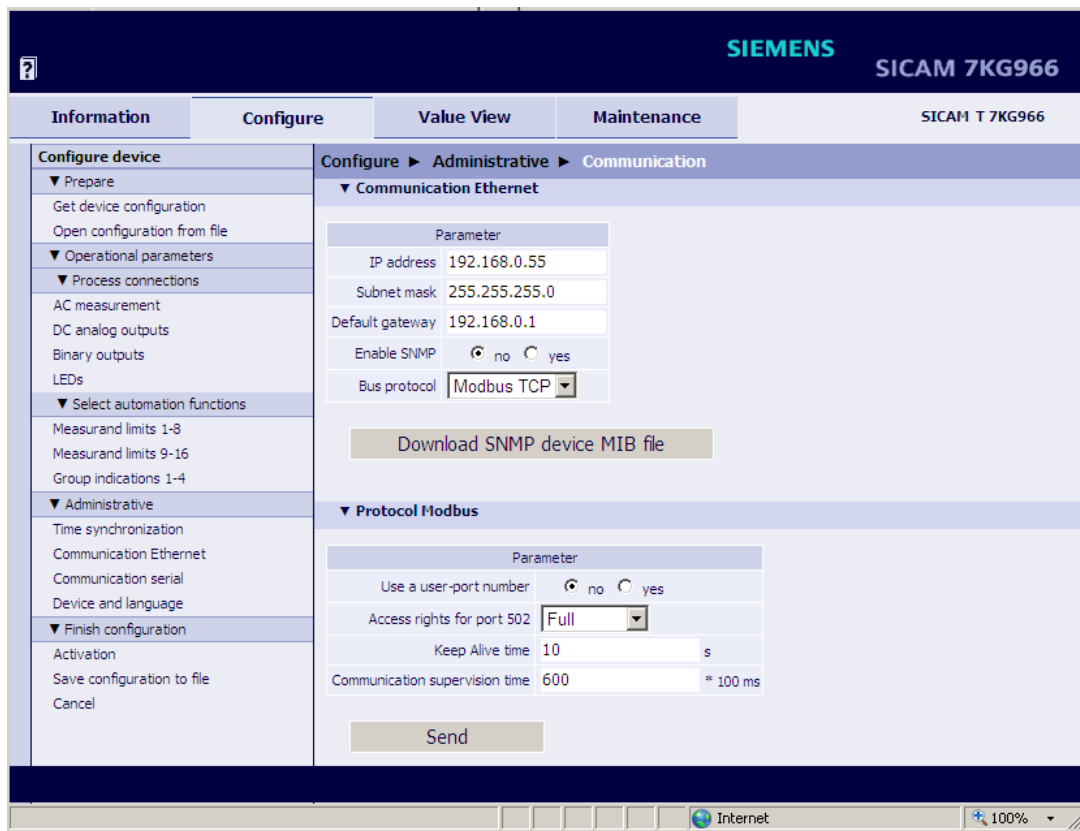

Fig. 7-39 Configure Tab, Communication Ethernet via Modbus TCP Input/output Window
- ✧ In the **Communication Ethernet** input/output window, click the **Download SNMP device MIB file** button (see figure 7-39).
Ethernet Communication with Bus Protocol Modbus TCP (see figure 7-39)